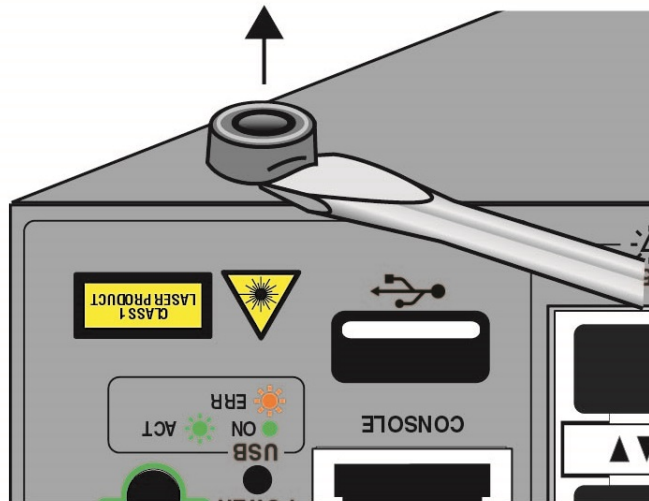

Figure 84. Removing the Bumper Feet
2. Use a small flat-head screwdriver to gently pry the feet from the bottom of the switch. Refer to Figure 84.